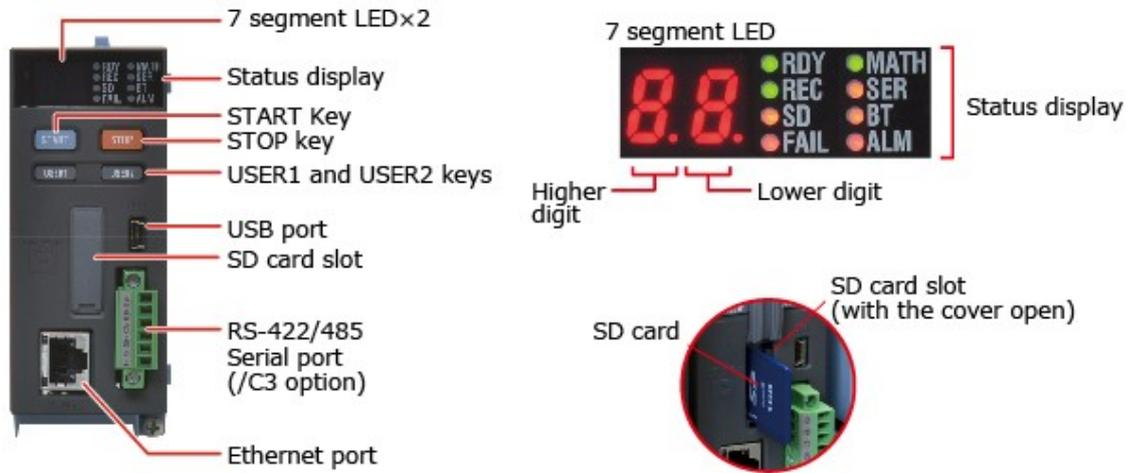

Figure 1: GM10 user interface (hardware)
- 3.1 Insert the SD memory card prepared in step 2 into the SD memory card slot (see figure 1).
- 4.2 Insert the SD memory card into the SD memory card slot (see figure 1).
- 5.3 Insert the SD memory card prepared in 2 into the SD memory card slot (see figure 1). Do not remove the SD memory card until the upgrade is complete.
- 9.1 Insert the SD memory card prepared in 4 into the SD memory card slot (see figure 1).